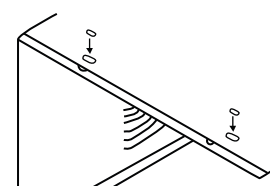

Fig.6
9. Add two foam inserts to holes in top of cabinet where shipping screws were removed from (see Fig.6)
1. Attach foam gasket to top angle above holes as shown in Fig.6.